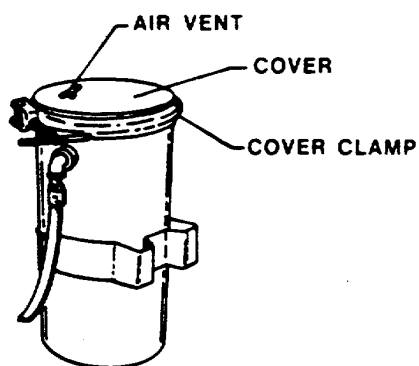

FIGURE 3
- (1) See Figure 3. Open left rear machine lid and remove Filter Cover.